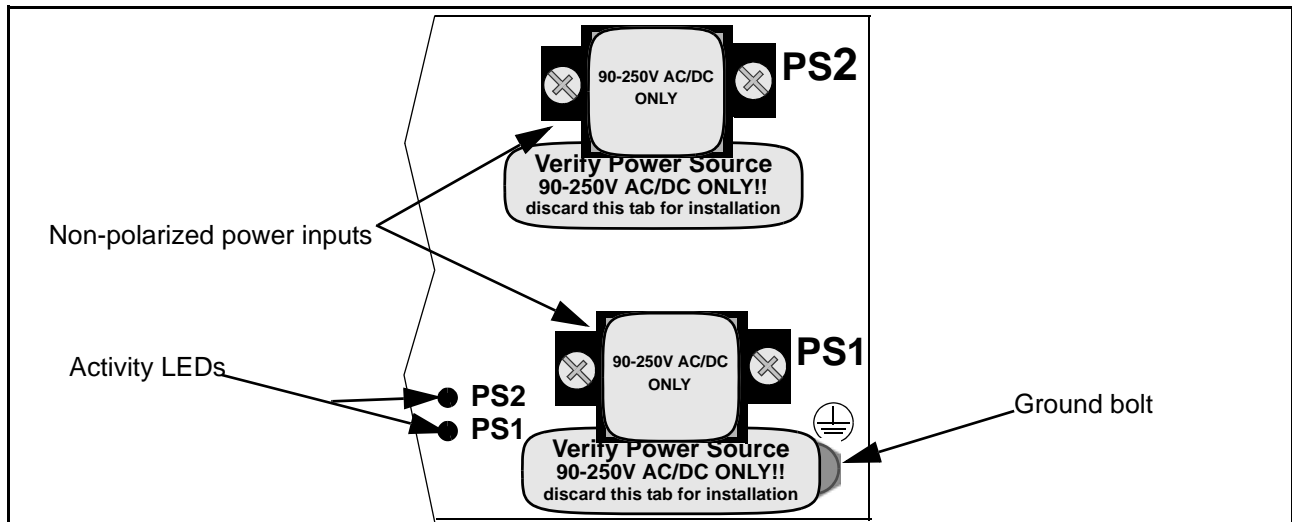

Figure 2-5. Ground and Power Connections
| Power | The cabling from facility power or from an alternative power source attached to the DX1000 chassis must meet the following criteria: <ul style="list-style-type: none">• cabling constructed using 14 AWG stranded wire• cable firmly attached to the terminal holes of the non-polarized power unit, as illustrated in Figure 2-5.• cable routed and strain relieved to the chassis according to good wiring practices |
The DX1000 provides a choice of one or two hardened DC or AC power supplies for industrial applications and/or hostile environments. The ground lugs and power supply connectors are located on the front face of the unit as shown in Figure 2-5.
2. Lift the protective cover from the power input (it is hinged at the top) and use a screw driver to loosen the screws on the non-polarized power inputs of the DX1000, as shown in Figure 2-5. Remove the wires from the connector.